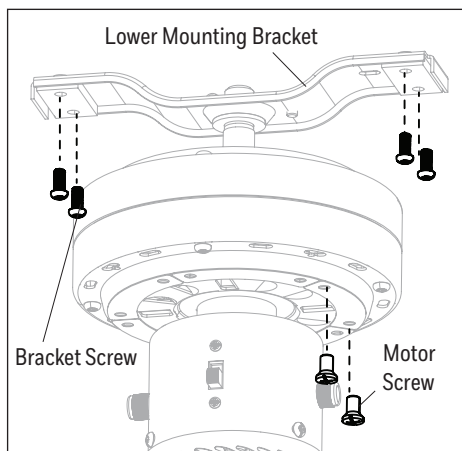

Figure 2.2
2. Remove the mounting bracket screws from underneath the lower mounting bracket. Remove the motor screws and set aside for later (Figure 2.2).